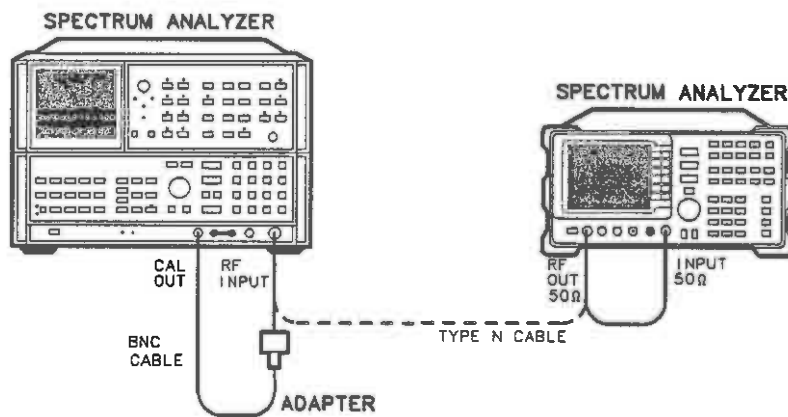

Figure 3-30. Harmonic Spurious Outputs Test Setup
1. Connect the Type N cable between the spectrum analyzer's RF OUT 50 $\Omega$  and INPUT 50 $\Omega$  connectors. See Figure 3-30.
7. Connect the Type N cable from the tracking generator RF OUT 50 $\Omega$  to the HP 8566A/B RF INPUT. See Figure 3-30.